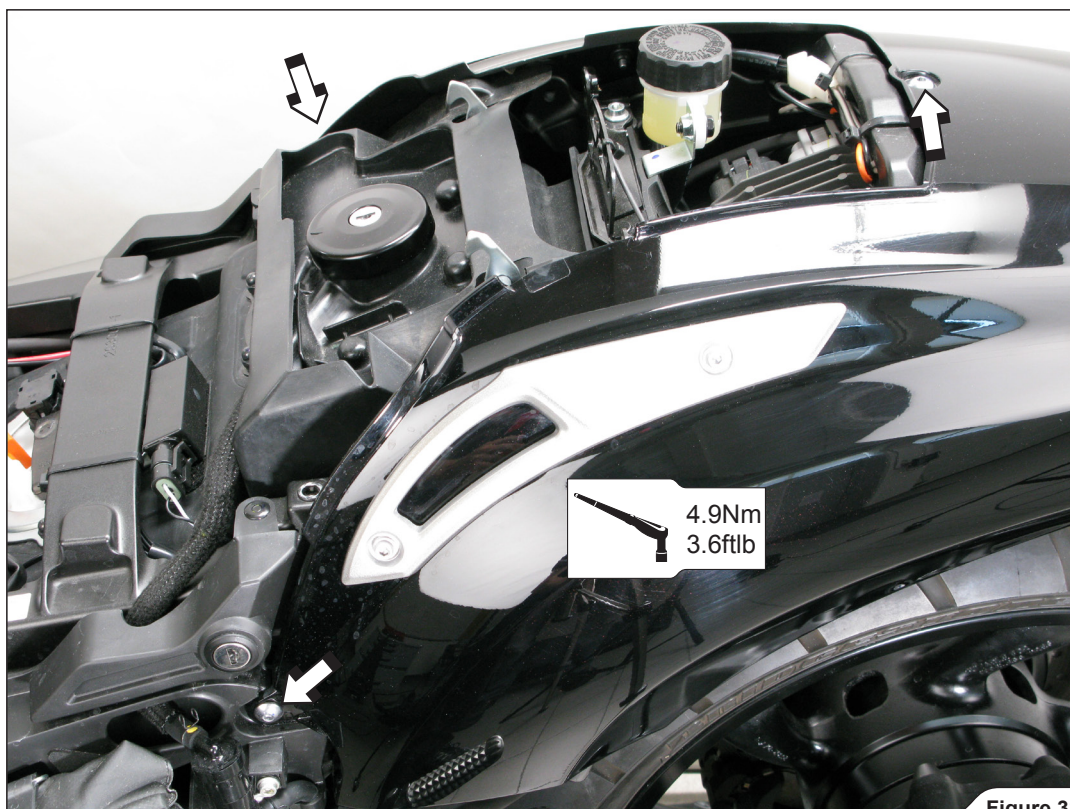

Figure 38
13. **For OPEN SLIP-ON only:** attach the seat cowling, seat panels, seats in the reverse order from the order in which they were removed (Figure 38, 39, 40, 41).